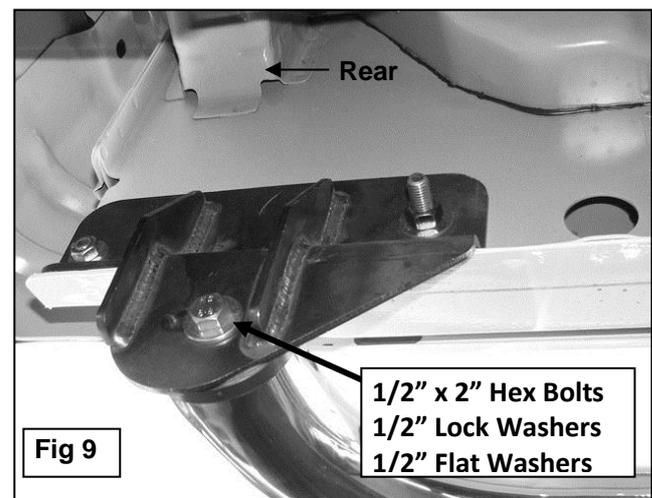

Fig 9
8. Attach the Sidebar to the Mounting Brackets using the included (2) 1/2" x 2" Hex Bolts, (2) 1/2" Flat Washers, and (2) 1/2" Lock Washers, **(Figure 9)**. Do not tighten hardware at this time.